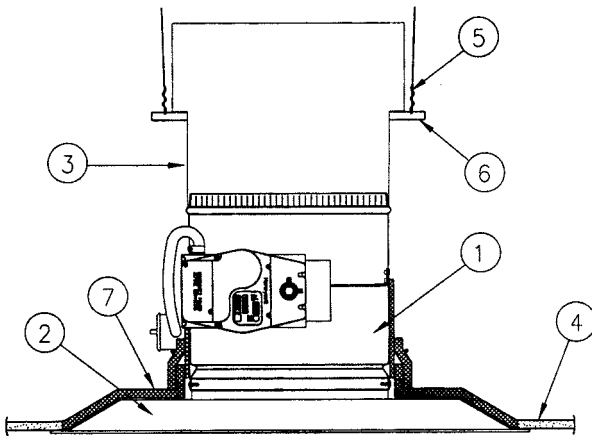

FIGURE 1
Support by the ductwork: Refer to installation figure 1. Two 16 MSG x 1 1/2" (38) channels support the ductwork adjacent to both sides of the duct drop. The channels are attached to the ceiling structure with minimum 12 SWG vertical (not splayed) wire. The damper and diffuser assembly are fastened to the duct drop using minimum #8 sheet metal screws, 3/16" (4.5) tubular steel rivets or 1/4" (6) tack welds at 6" (152) o.c.